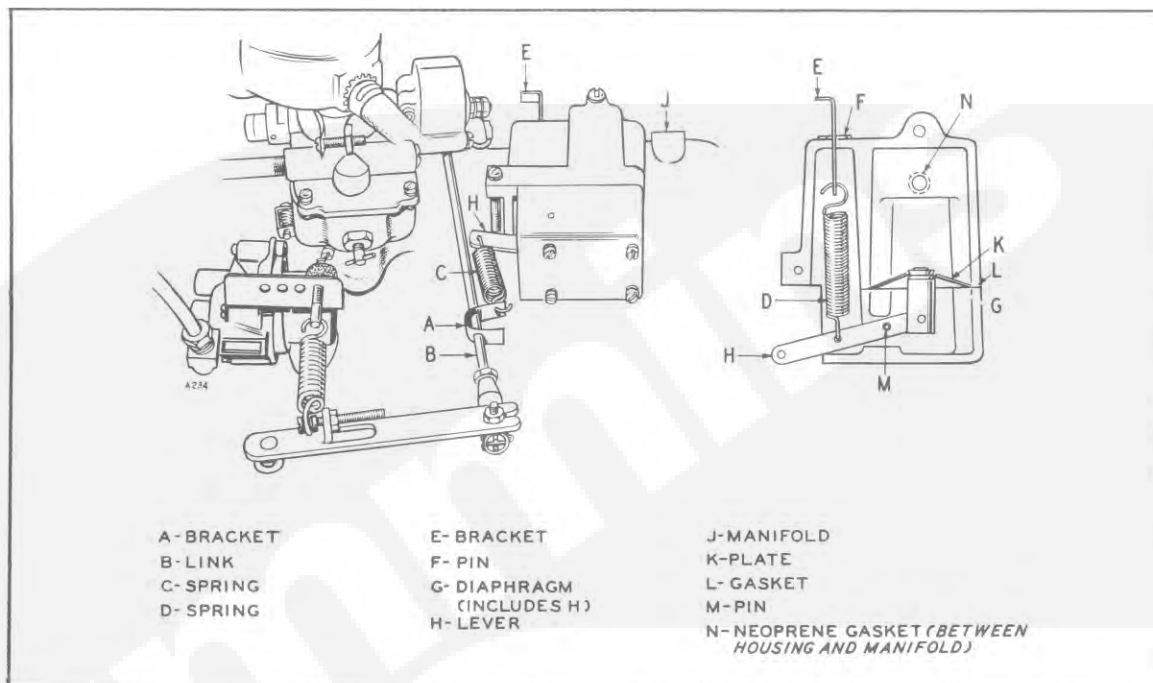

FIG. 28 - VACUUM SPEED BOOSTER
**SPEED BOOSTER.** - The vacuum speed booster is a device used on certain ac plants of the CK series to maintain or increase the engine speed by opening the throttle when engine vacuum is decreased. The effect is maintained or increased speed at higher loads (3KW to 3.5KW) and the result is near constant output voltage. Refer to Figure 28.